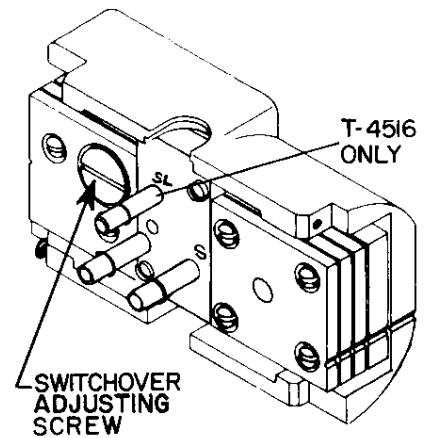

Fig. 8: Back View of Instrument
6. Slowly turn the switchover adjusting screw (see Fig. 8) clockwise to increase or counterclockwise to decrease the switch point until the output changes.